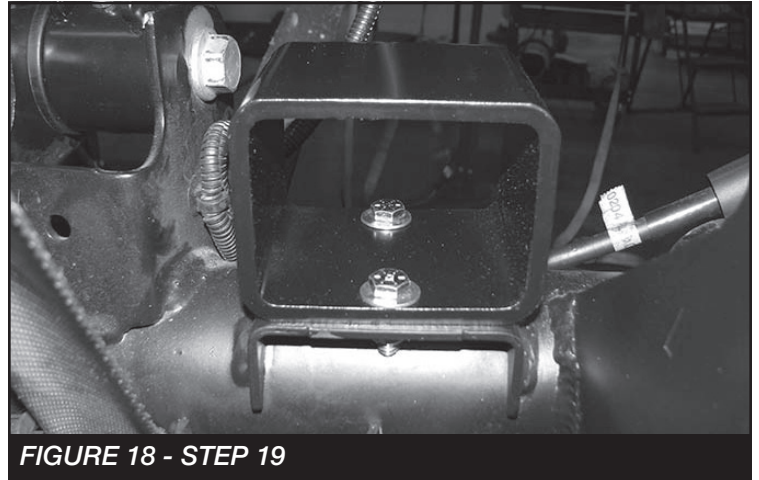

FIGURE 18 - STEP 19
19. Locate FT50724 Rear Bumpstop Spacer. Position the spacer onto the factory bumpstop pad on the axle and attach with the supplied 5/16" x 1" bolts and hardware. **SEE FIGURE 18**